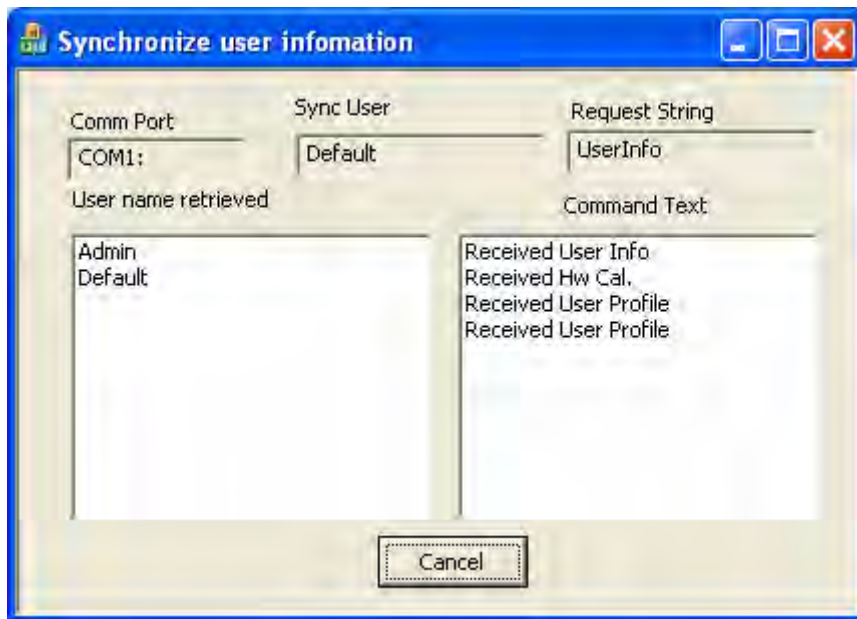

Figure 9 : CyberComm synchronizes with meter
5. CyberComm establishes connection with the meter and synchronizes basic information (user information, hardware calibration & user databases) with the meter. (Figure 9)